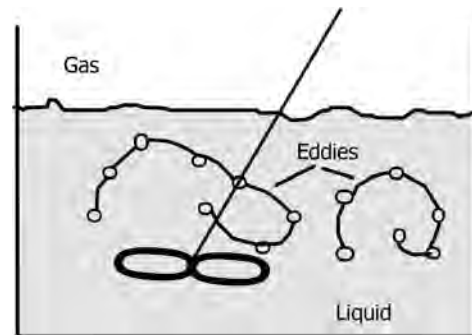

FIGURE 15.7 Gas-liquid contacting.
- > Eddy is swept to the surface (e.g., gas bubble) and undergoes unsteady-state diffusion and then swept away to the interface and so on (Figure 15.7).